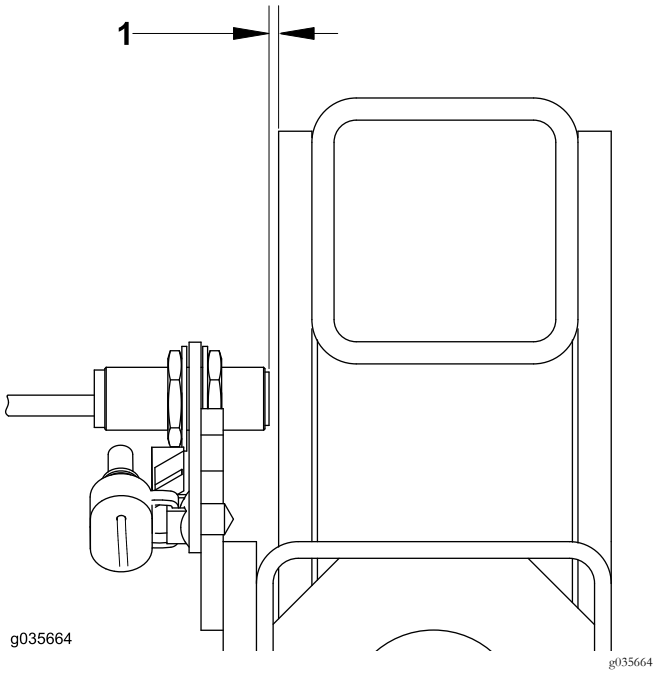

Figure 19
- 5. Set a 3.6 mm (0.14 inch) sensor gap to each sensor that you installed (Figure 19).